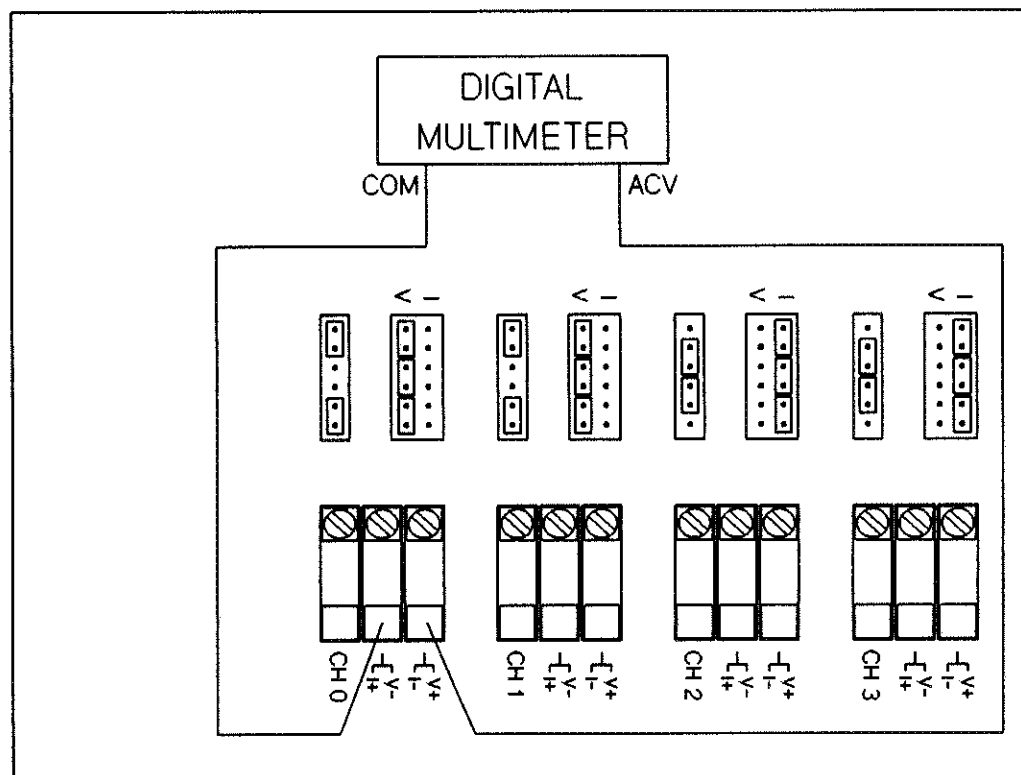

Figure 15-10 HP 44727A/B/C Voltage Noise Test
1. Set the multimeter to measure ac volts. On the test fixture, connect the multimeter ACV input to the V+ connection and connect the COM input to the V- connection of the channel to be tested. The connections are shown in Figure 15-10.